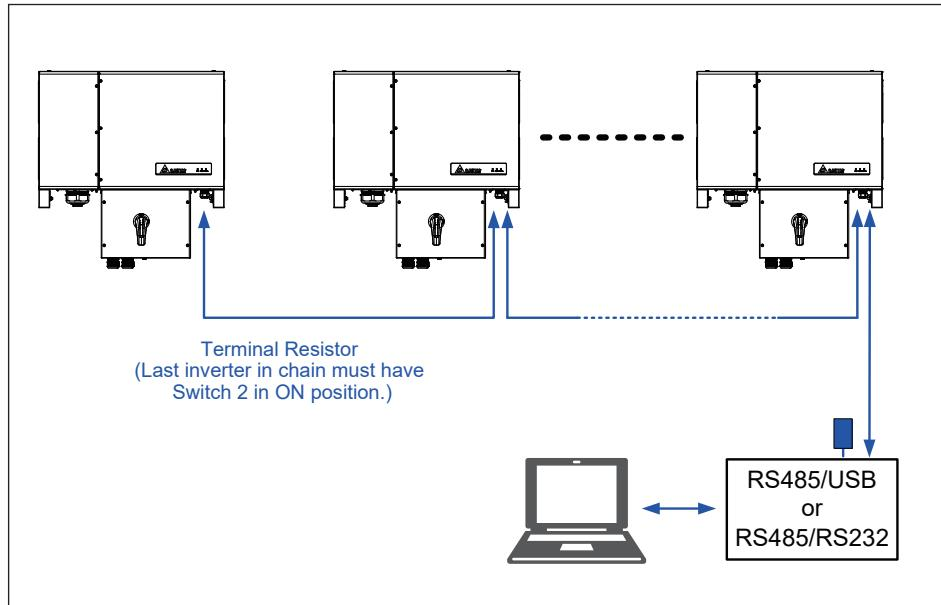

Figure 3-31: Multiinverter connection illustration
- When several inverters are cascaded (i.e., "daisy-chained") only the last inverter in the chain must have its bus termination resistor switched ON. Refer to **Figure 3-31**.